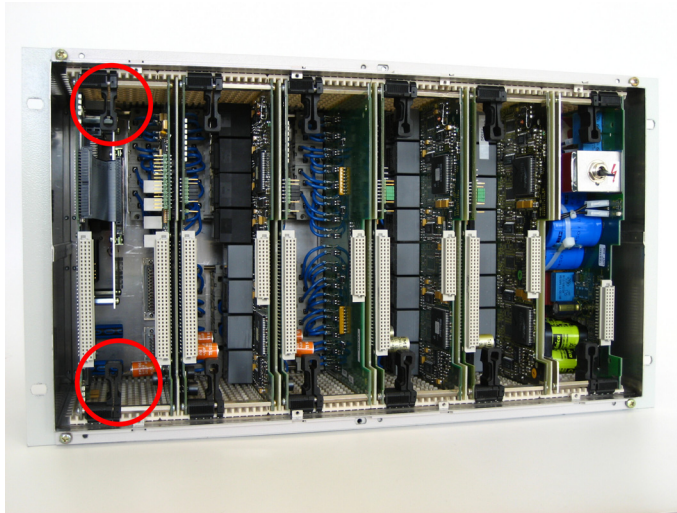

Figure 3-7 Deblocking the CPU module (view with 2.5" flash disk on CPU module)
- Detach the CPU board by pushing the black locking levers right until the levers unlatch from the PCB. Flip both locking levers forward simultaneously (approx. 45°) until the levers snap into the second position on the PCB (see Figure 3-7).